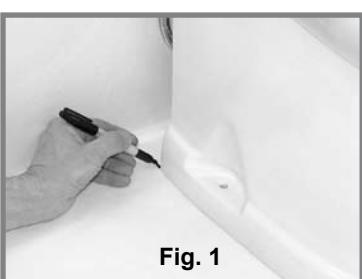

Fig. 1
STEP 3: Mark the floor at the rear corners of the toilet bowl (fig. 1). Measure the distance between the two marks and divide by 2 to find the toilet centerline. Mark the floor at the rear wall for the centerline.